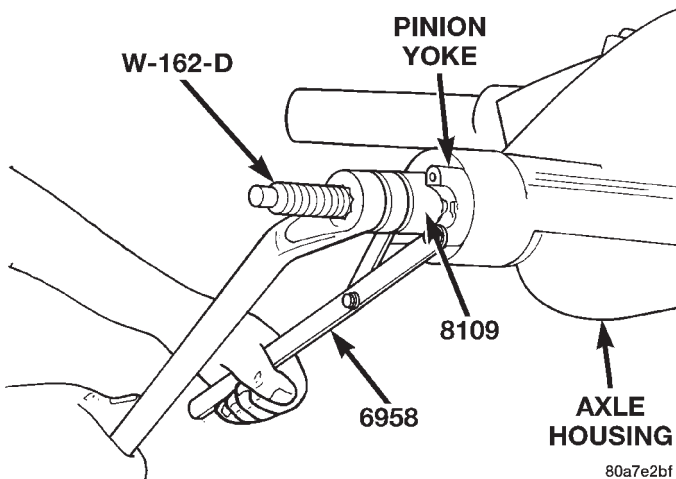

Fig. 15 Pinion Yoke Installation
(5) Install yoke with Installer W-162-D, Cup 8109, and holder 6958 (Fig. 15).
(6) If the original pinion bearings are being used, install differential assembly and axle shafts, if necessary.